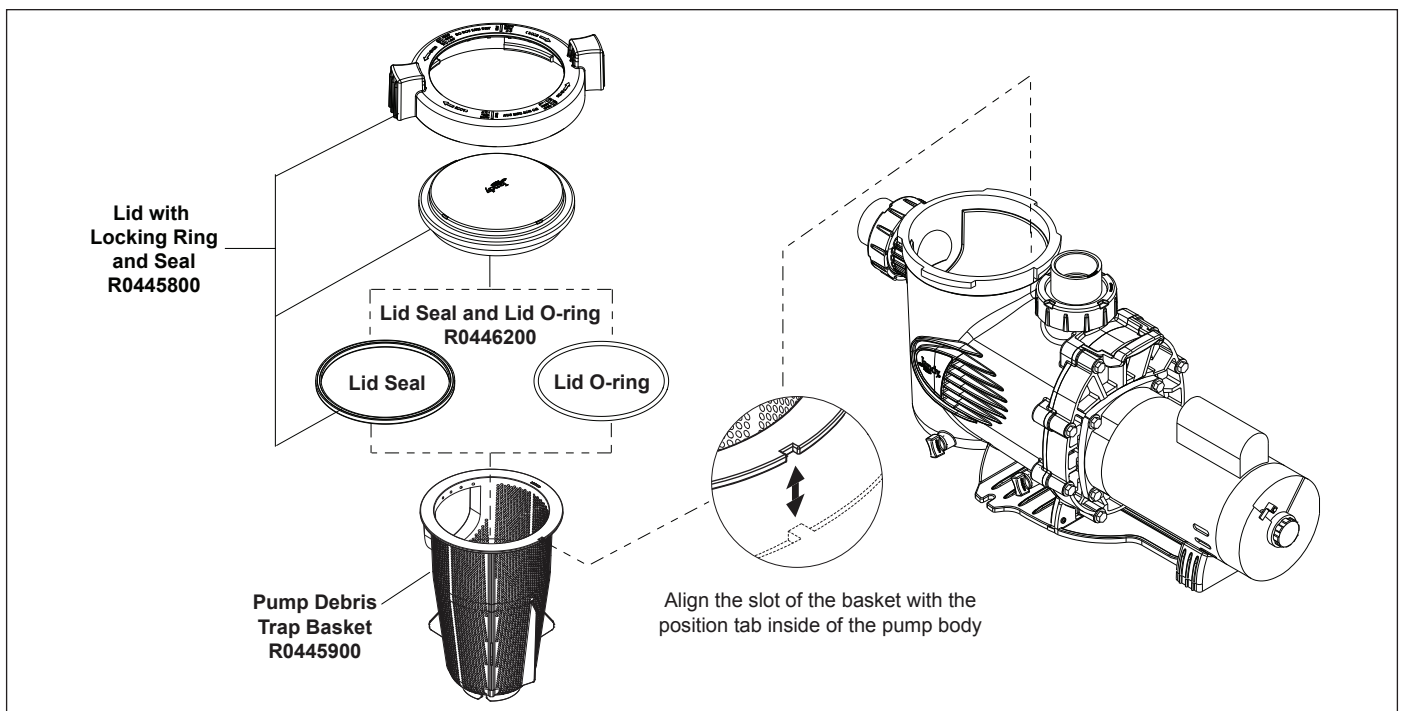

Figure 1. Parts in First Three (3) Replacement Kits (R0445800, R0445900, R0446200)
Section 2 describes procedures for the first three (3) replacement kits: R0445800, Lid with Locking Ring and Seal, R0445900, Pump Debris Trap Basket, and R0446200, Lid Seal and Lid O-ring. Refer to Figure 1 and the Parts List to identify the parts in these three (3) kits.
4. Place the new pump debris trap basket into the pump. Make sure that the slot of the basket is aligned with the positioning tab inside the pump housing. (See Figure 1.) If aligned properly, the basket will drop easily into place. **Do not force it into place.**